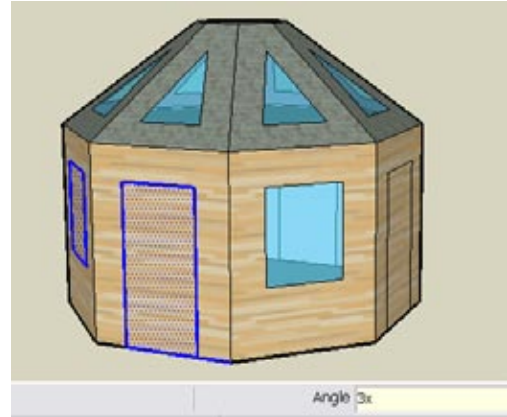

Figure 1-54
16. Enter $3x$, and every face should have either a window or a door (Figure 1-54).